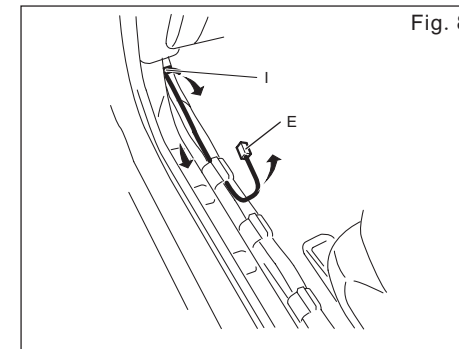

Fig. 8
- e) Route the short Harness E along the vehicle harness, and attach the short Harness E to vehicle's harness using the Tie Wrap I. See in Fig. 8.